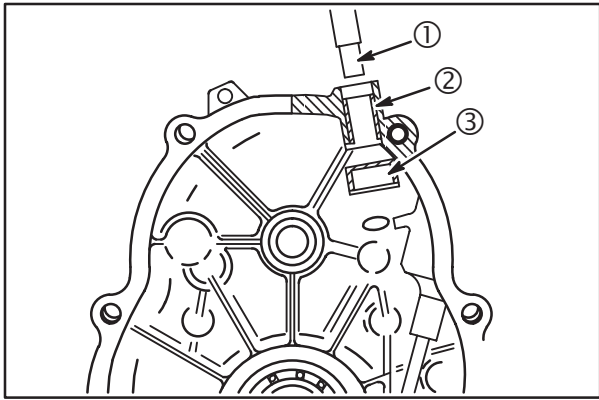

Fig. 9
- Press out upper bushing (2) using Bushing Driver #19204 (1), Fig. 9.
**NOTE:** Lower bushing is a slip fit. If bearing for lower bushing (3) is worn, the crankcase cover must be replaced.